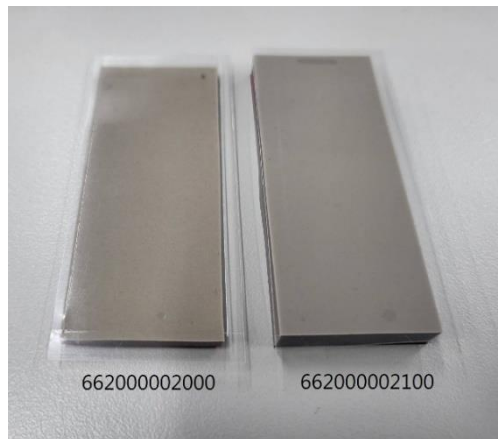
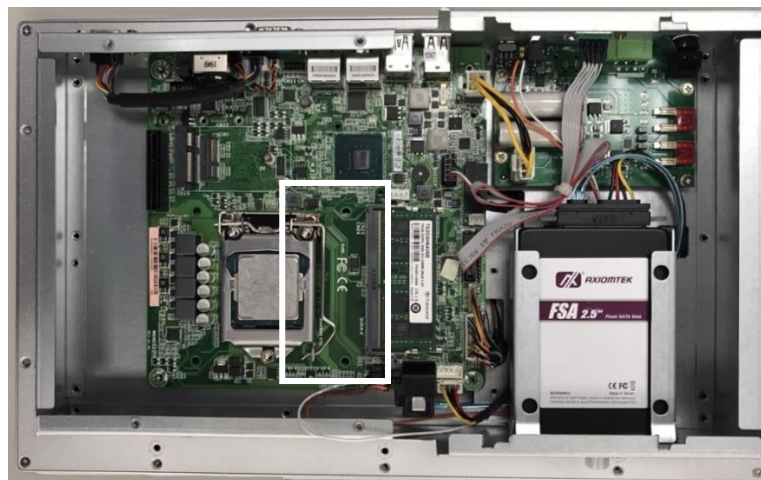

Figure 2-15: Thermal pad for RAM installation
Figure 2-16: DIMM socket position
- Step 2** Locate the DIMM socket on the mainboard, as shown in Figure 2-16 ,then remove the release paper from the Thermal Pad (Part number 662000002100 as shown Figure 2-15) put it on the red square as shown in Figure 2-17
- Step 5** Remove the release paper from the Thermal Pad (Part number 662000002000 as shown Figure 2-15) then put it on the blue square of back cover as shown in Figure 2-19